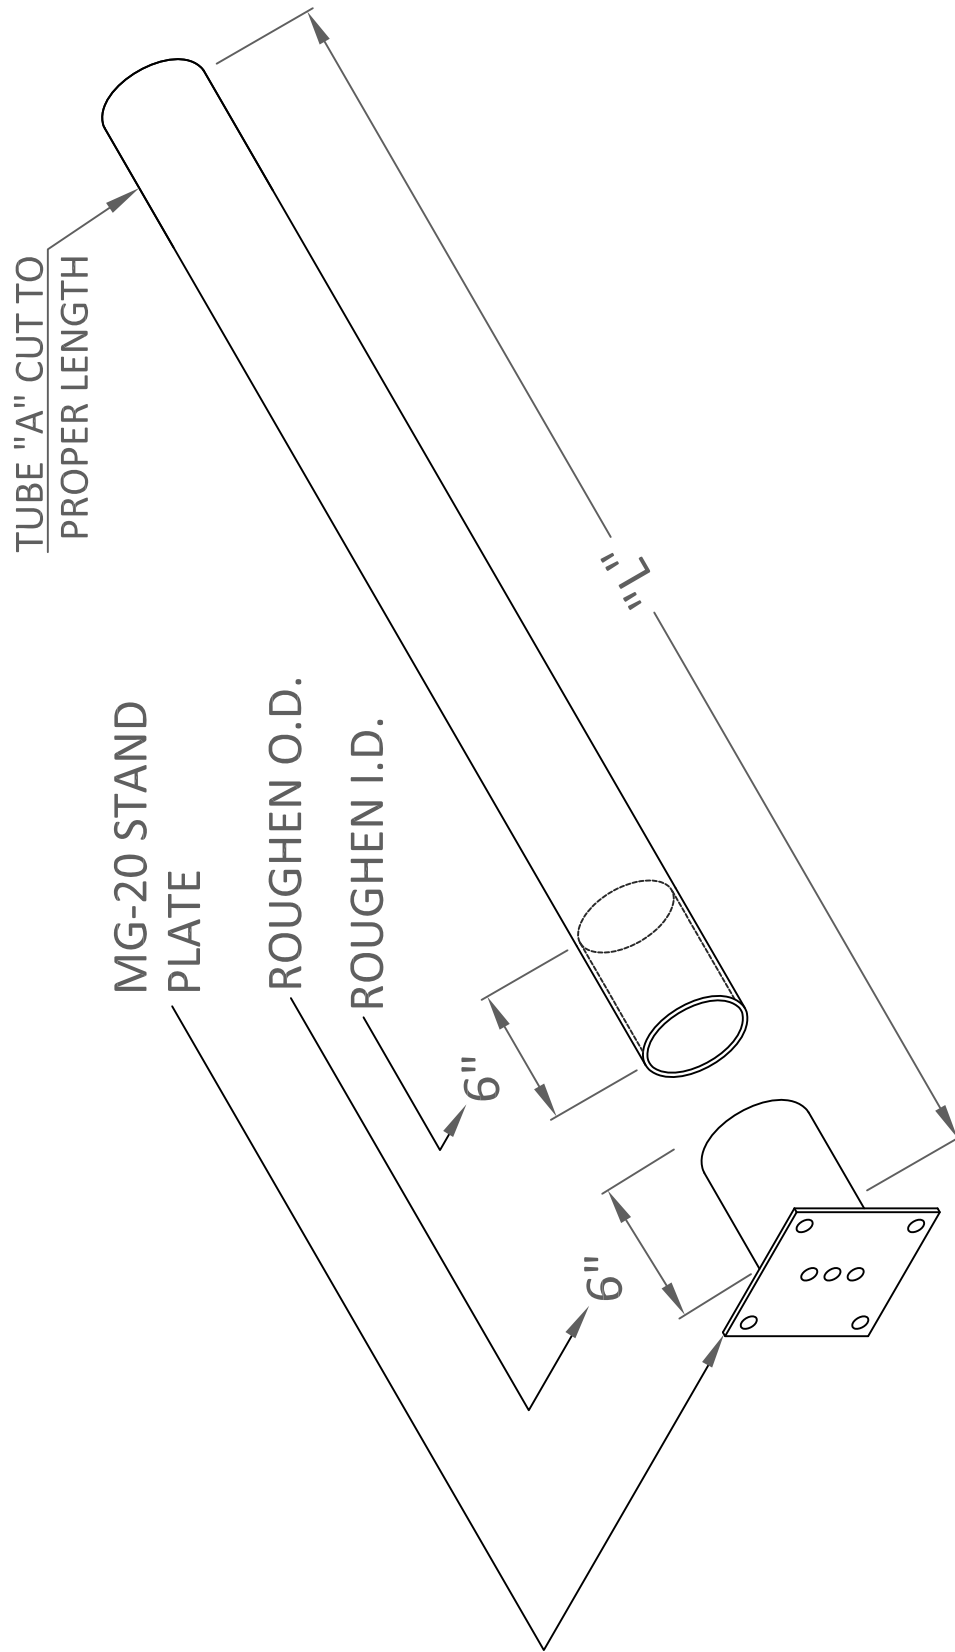

FIGURE 9-1
- B. Cutting and Bonding Schedule: See Figures 9-1 through 9-3. Cut tube lengths from Tube “A” or Tube “B” (Item 7 or Item 8 respectively) as required, using a table saw with a diamond or carbide abrasive blade. All saw cuts shall be at a right angle to the tube axis. Deburr saw cut edges with a file. For bonding, roughen surfaces to be bonded, as shown in Figures 1, 2, and 3, using 80 or 100 grit emery cloth. Clean roughened surfaces thoroughly with a solvent (methyl ethyl ketone or acetone). Mix equal parts of Chemlok 304-1 Epoxy Resin and 304-2 Hardener, mix thoroughly but avoid air inclusion. (Chemlok 304-1 resin and Chemlok 304-2 hardener are available through Jaquith Industries, Inc. Part No. L5008) For each joint to be bonded, spread a thin coat of mixed adhesive on both surfaces to be bonded.